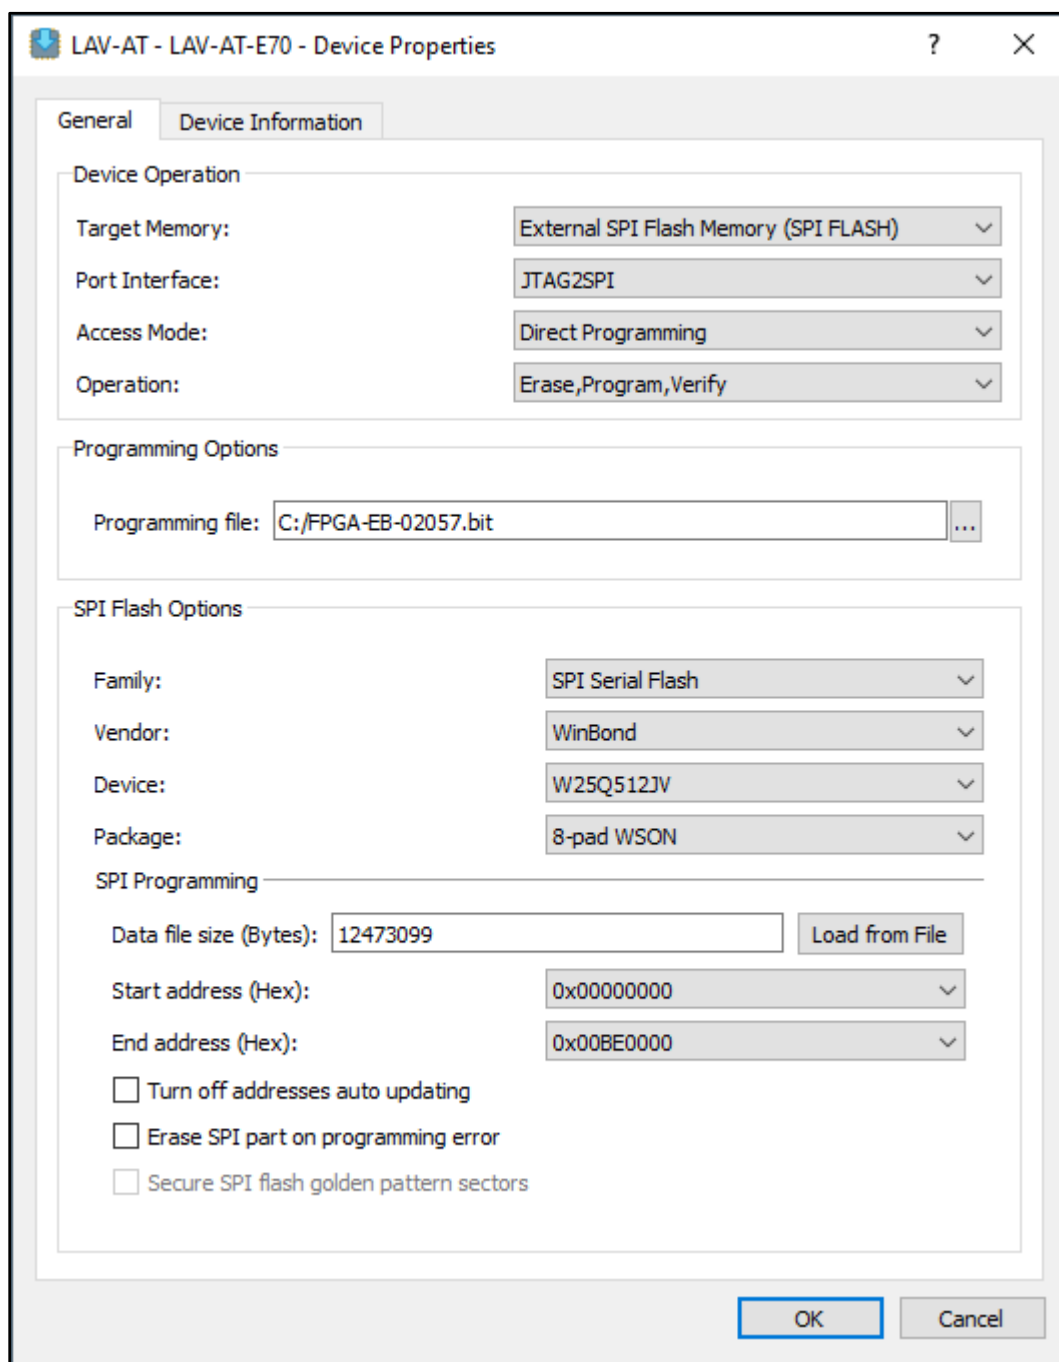

Figure 5.8. Radiant Programmer – Device Properties
5. The Device Properties dialog box opens (Figure 5.8). Select the following options: